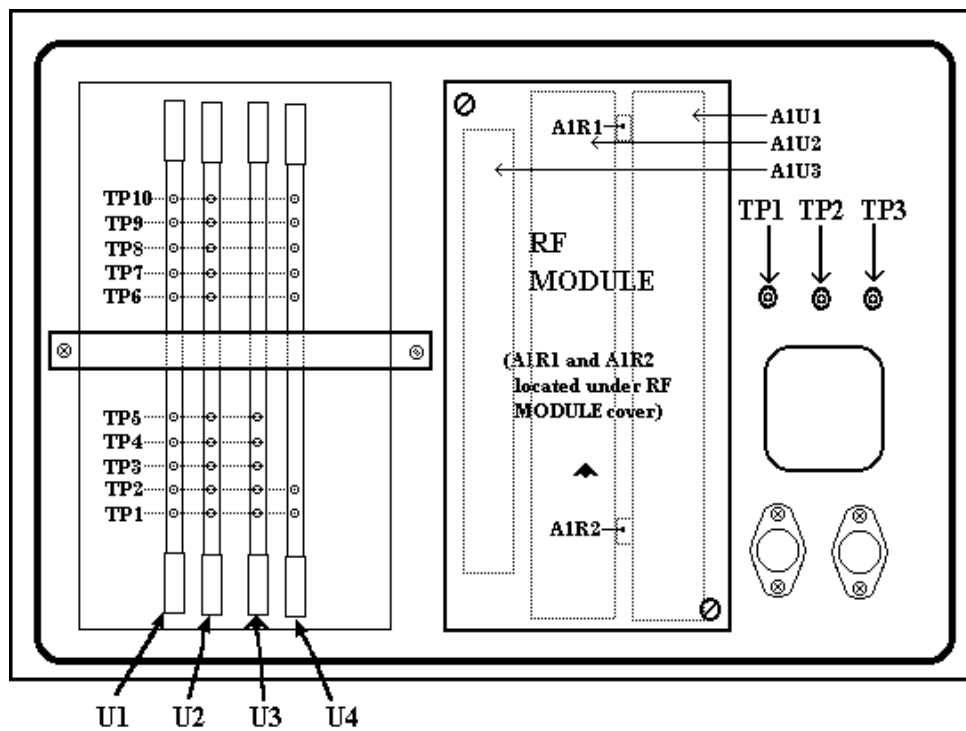

Figure 1. Test instrument - rear view.
- j. Connect U3TP6 (fig. 1) to **EXT SIF IN** on radar test set.
(1) Set TI **POWER** switch to **OFF** and remove the housing from the RF MODULE (fig. 1) as listed in (a) through (d) below.
(a) Disconnect the three RF cables from side of RF MODULE (fig. 1).
(b) Release the two hold-downs at opposite corners of module and gently lift RF MODULE (fig. 1) A1 from its connector.
(d) Replace RF MODULE (fig. 1) into its chassis assembly and reconnect the three RF cables.
(3) Set TI **POWER** switch to **ON**.
(4) Adjust radar test set main RF output, adding the cable loss (recorded in **8a(7)** above) to achieve -6 dBm output at the TI **ANTENNA** connector.
(5) Adjust A1R1 (fig. 1) until **ACCEPT/REJECT** indicator just changes from **REJECT** to **ACCEPT** (R).